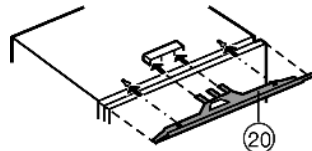

Fig. 12
- ▶ Fit the equaliser trim *Fig. 12 (20)* centrally onto the appliance: slide into holding fixture and engage in keyholes.